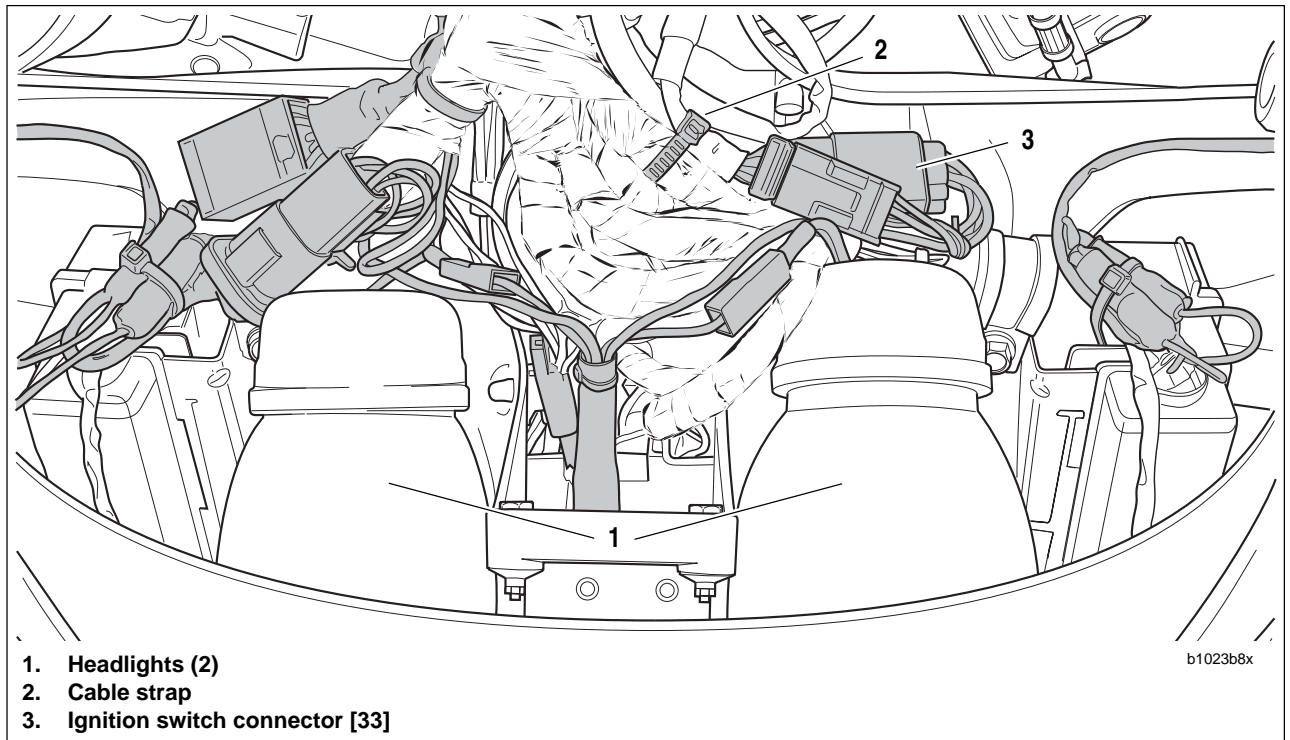

Figure 7-6. Ignition Switch Connector (viewed from underneath fairing)
3. See Figure 7-6. Cut cable strap (2) holding ignition switch, fuse block and right handlebar switch wires.
4. Disconnect ignition switch connector [33] (3).
- a. Apply LOCTITE 272 to upper fork clamp pinch fasteners (1).
- d. Install steering stem pinch fastener (2) applying LOCTITE 272 and tightening to 17-19 ft-lbs (23-26 Nm).
5. See Figure 7-6. Connect ignition key switch connector (3) to wiring harness. Install cable strap (2) around ignition switch, fuse block and right handlebar switch wires.